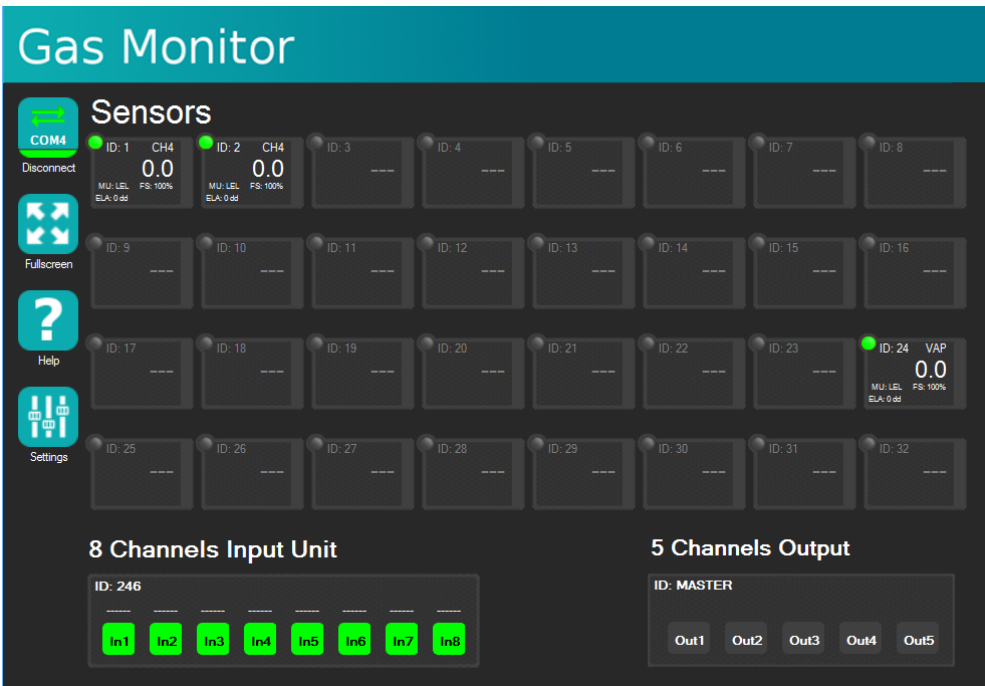

Figure 9
8. If a connection has been established between the software and the system, the user will see a view like that presented in Figure 9